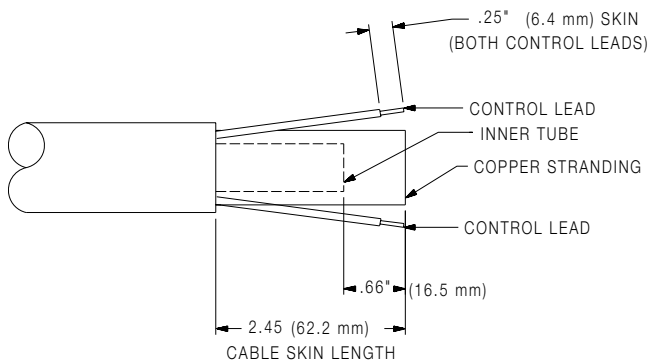

Figure 3
- e. Cut off the damaged section of cable and strip the outer jacket as shown in Figure 3. Be careful not to cut the insulation on the control wires while stripping jacket. Strip the red and white control leads .25" (6.4mm) from the end and crimp a new S19492-2 terminal to each lead.
- e. Cut off the damaged section of cable and strip off the outer jacket as shown in Figure 3. Be careful not to cut the insulation on the control wires while stripping jacket. Strip the red and white control leads 1/4" (6.4mm) from the end and crimp a new S19492-1 terminal to each lead. Trim the inner tube to dimensions shown.